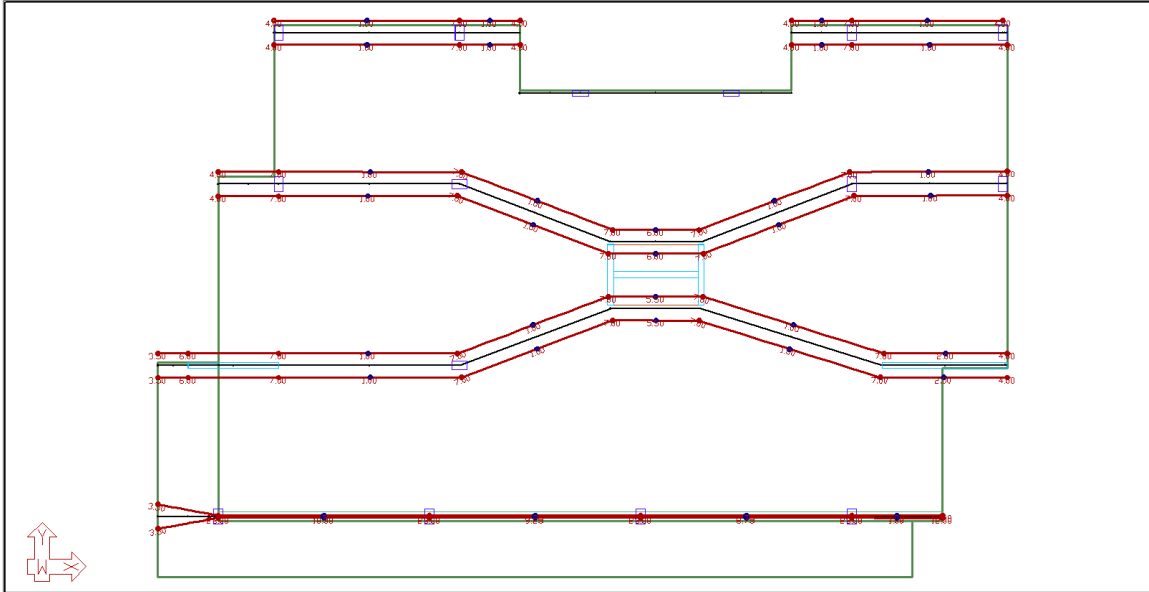

FIGURE 9-42
- Once these changes have been made you should now see brown and blue hexagons along the tendon representing the high and low control points of the tendons. In addition, the text should be more legible as shown in **FIGURE 9-42**.